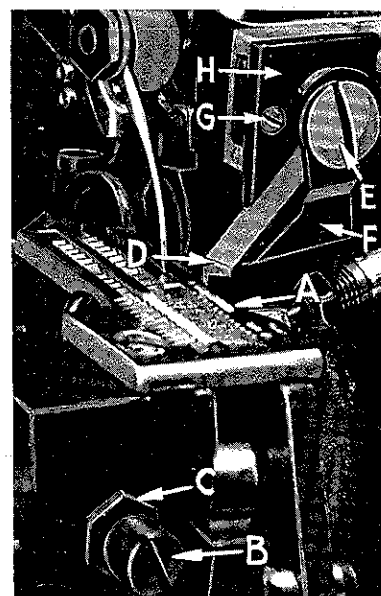

Fig. 13
Replace lower knife holder assembly. Lower knife (A, Fig. 13) should be set with cutting edge flush with throat plate surface. Adjustments are made with hexagonal head screw which holds lower knife. Lower knife is spring pressed against upper knife, so no lateral adjustment is necessary when width of trim is changed.
Replace upper knife assembly. Clamp upper knife (D, Fig. 13) in position, setting screw (E) to hold clamp (F) in its most clockwise position against upper knife. At bottom of its stroke, front cutting edge of upper knife should extend not less than $1/64$ inch below cutting edge of lower knife.